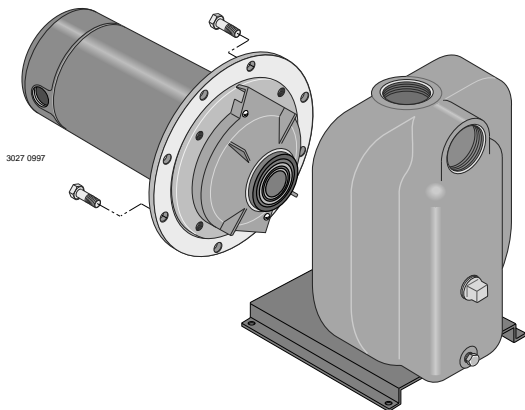

Figure 13 – Slide Motor Back
Pump and piping need not be disconnected to repair or replace motor or seal (see Figure 13). If motor is replaced, replace the shaft seal (Key No. 7, Page 12). Keep one on hand for future use.
2. Remove capscrews holding seal plate to pump body. Motor assembly and seal plate can now be pulled away from pump body (Figure 13). CAREFULLY remove gasket.